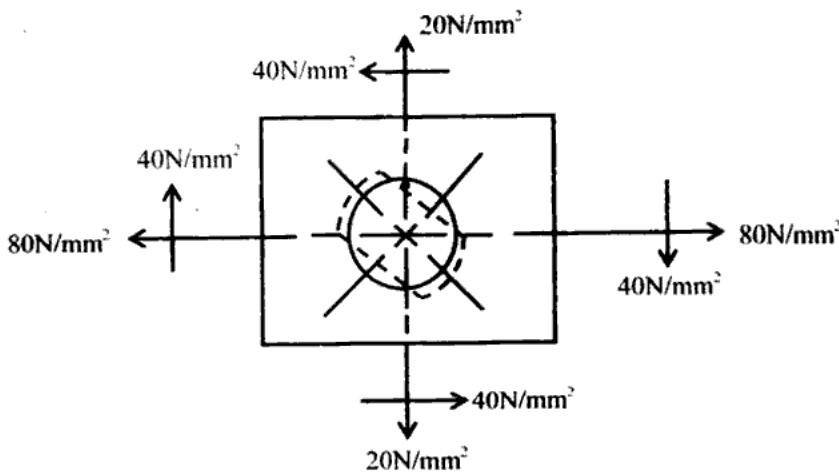

Fig 3
- (1) Maximum principal stress theory
- (2) Maximum shear stress theory
- (3) Maximum strain energy theory
**(b)** On a mild steel plate, a circle of diameter 50mm is drawn before the plate is stressed as shown in figure 3. Find the lengths of the major and minor axis of an ellipse formed as a result of the deformation of the circle marked. [10]